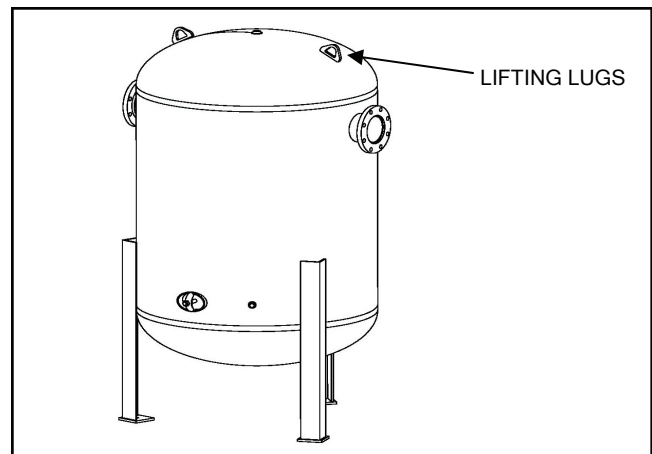

Figure 1
2. Follow safe handling procedures when transporting the tank. Use lifting lugs whenever possible (see Figure 1).